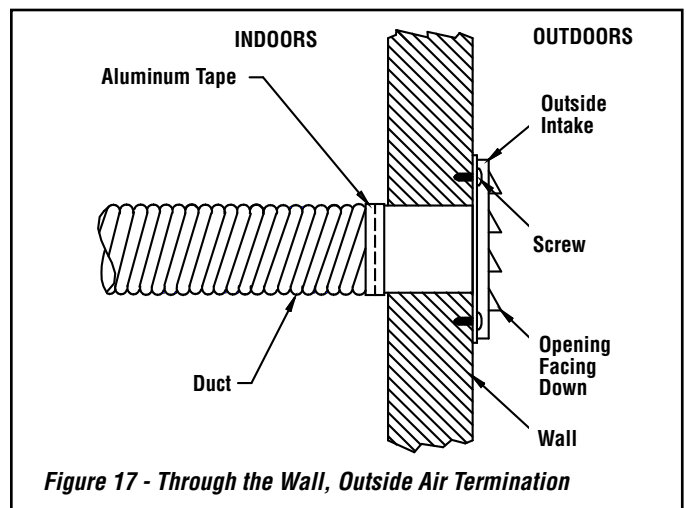

Figure 17 - Through the Wall, Outside Air Termination
- The air intake register must not be installed more than ten (10) feet (3050 mm) above the base of the stove.
- Make a 4-1/4" (110 mm) hole in the outside wall of the house at the chosen location. From outside, place the outside air register in the hole (open side down) and fasten the register to the wall, with screws as shown (see **Figure 17**).